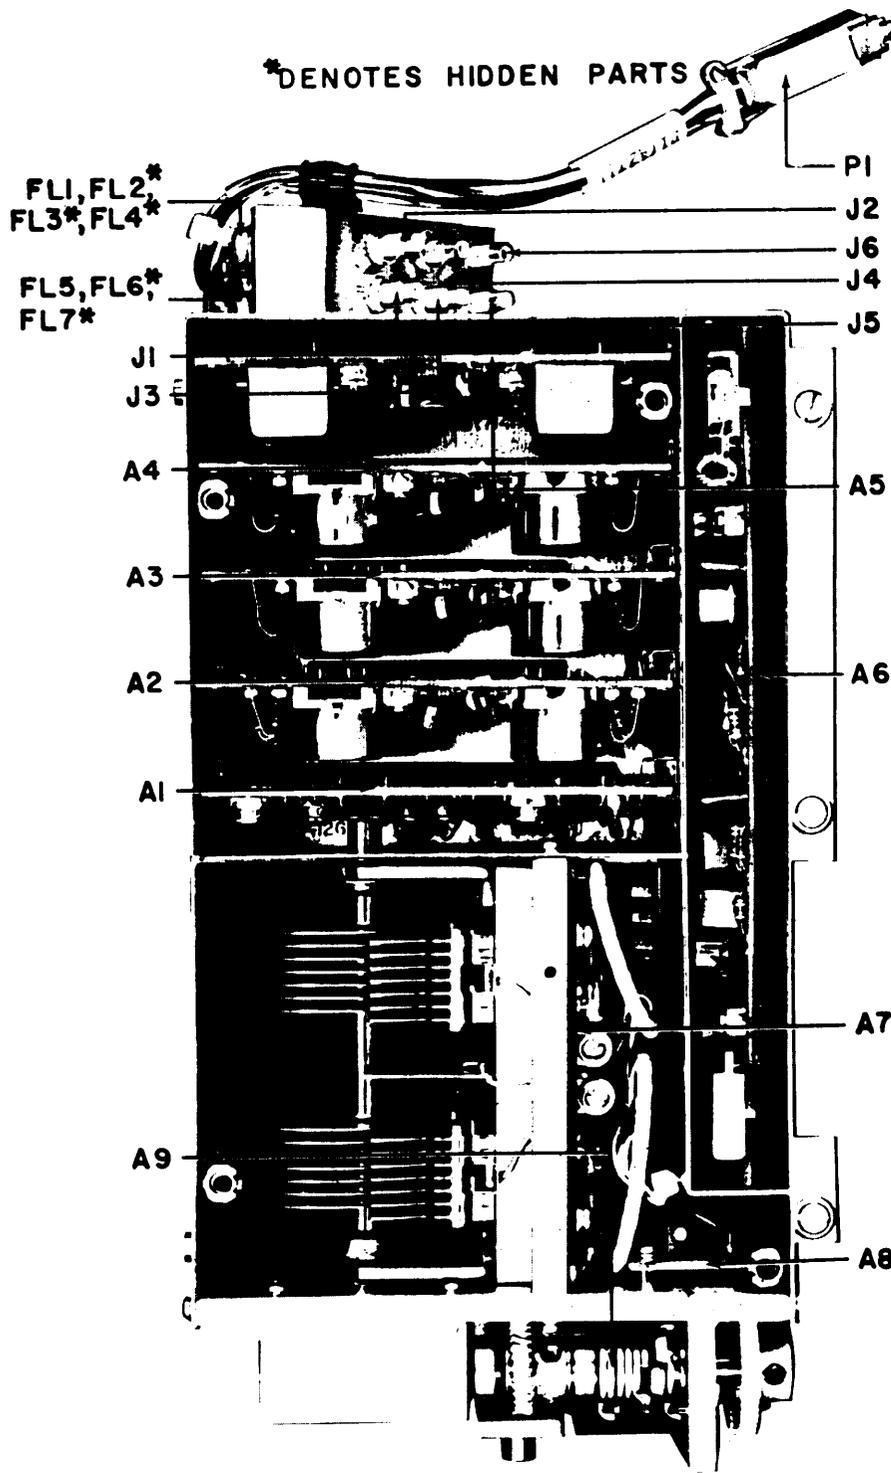

Figure 5-3. Type WJ-9120 0.5-30 MHz Tuner Assembly, Top View, Location of Components
4.8.2 Removal of the Tuning Drive Assembly (A9), Local Oscillators (A7) and the +10.5V Voltage Ref. (A8) is accomplished by first removing the two spacer bars mounted between the Tuning Drive Assembly and the main chassis of the Tuner (refer to Figures 5-3 and 5-4 for the top and bottom views of the Tuner). Next, remove the three screws on each side panel that mount the Tuning Drive Assembly to the chassis. Once the mounting screws are removed, the assemblies can be accessed by sliding the A9 assembly forward slightly and tilting toward the bottom of the tuner to clear the chassis.